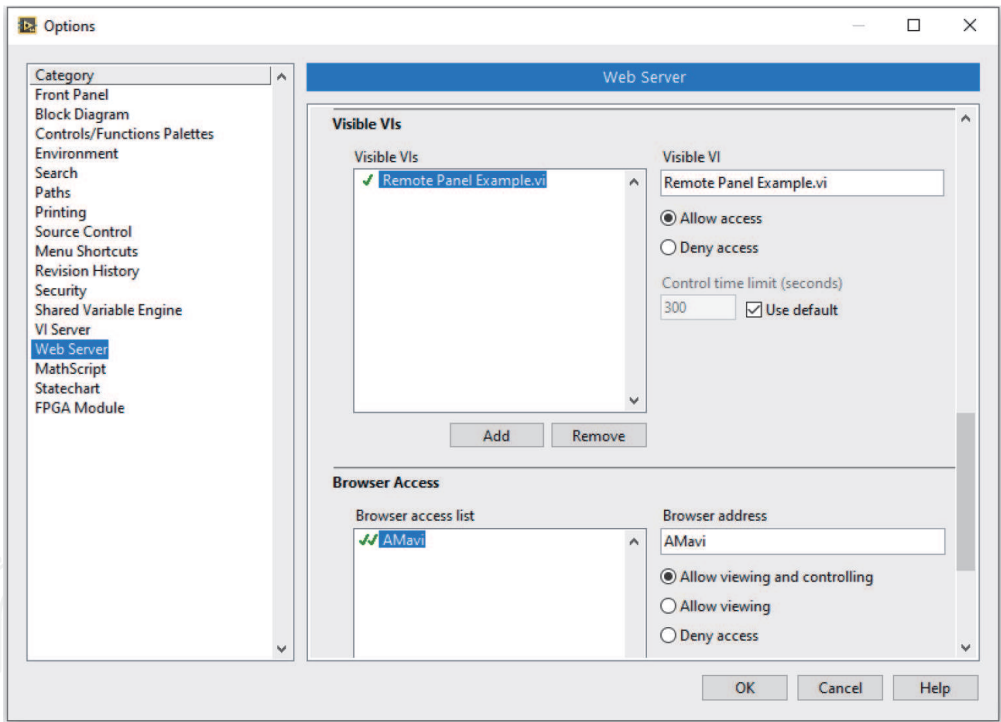

Figure 22.
4. Under the **Visible VIs** section, enter the name of the VI (Remote Panel Example.vi) in the **Visible VI** field and press the **Add** button (Figure 22).
5. Under the **Browse Access** section, enter the network name of the computer and press the **Add** button. Allow viewing and controlling option must be selected (Figure 22).